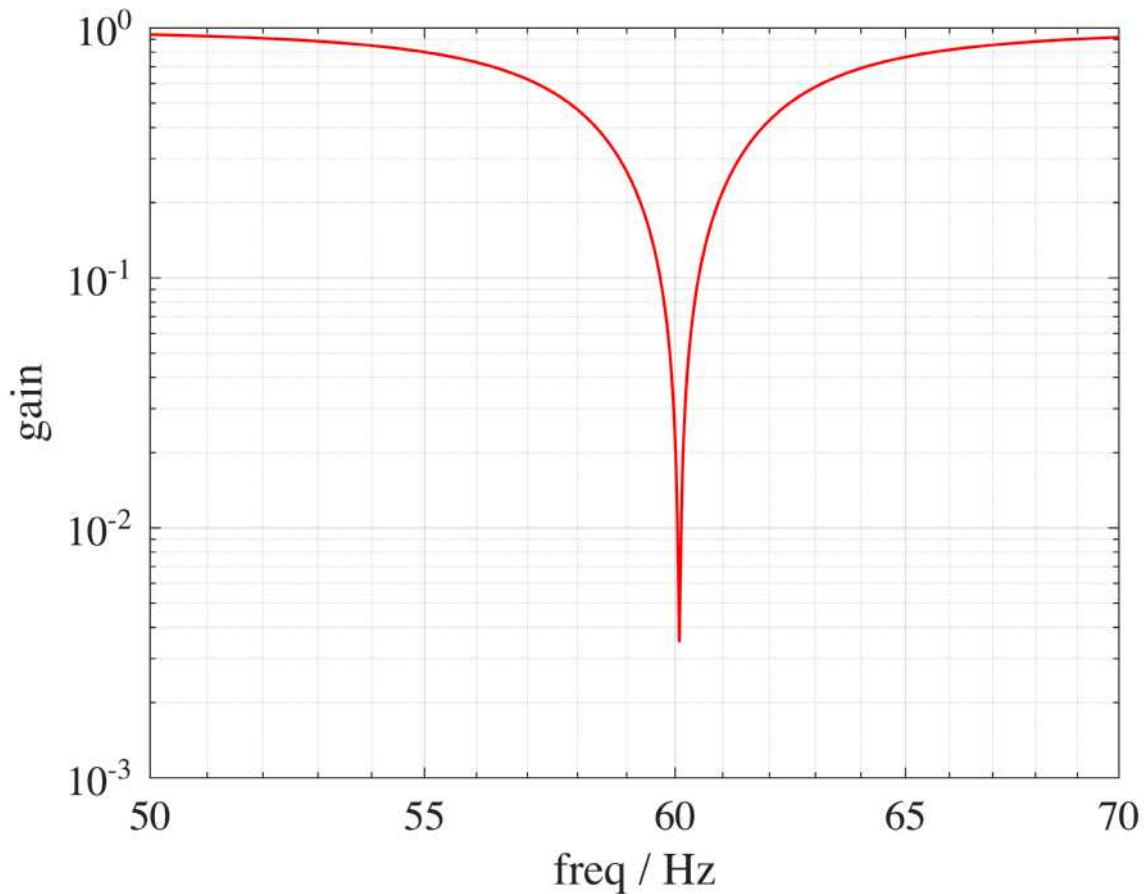

Figure 12. Simulated Twin-T notch filter gain.
the *power* decreases by $1/2$. And since $P = V^2/R$, Δf one might think is the width of Fig. 12 where it intersects $\text{gain} = \sqrt{1/2}$. Maybe before *trying* to solve that, think of at least 2 or 3 different ways you *might* solve it. Then pick the easiest one and try it before continuing.
- Did you think of using Tool Tips on Fig. 12?